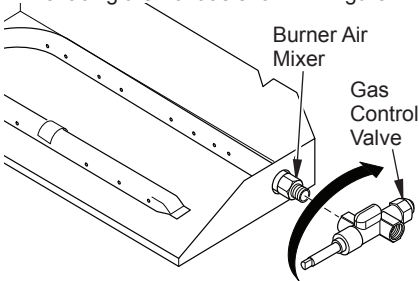

Figure 1
1. Thread the gas control valve onto the burner air mixer. Use pipe sealant on the male threads of the burner air mixer. Hold the burner air mixer with a wrench to prevent overtightening the connection to the burner. Make sure the control rod is facing the front as shown in Figure 1.